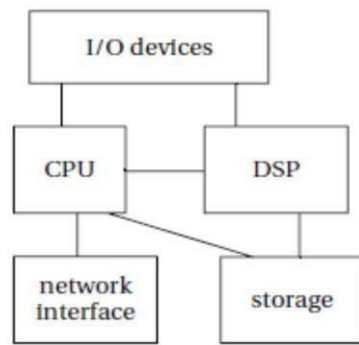

Fig 2.12.2 Hardware architecture of a generic consumer electronics
- Thestoragesystemprovides bulk, permanentstorageas shownin fig 2.12.2.
- The storage system provides bulk, permanent storage as shown in fig 2.12.2.
- Fig 2.12.2 shows, two-processor architecture; if more computation is required, more DSPs and CPUs may be added.